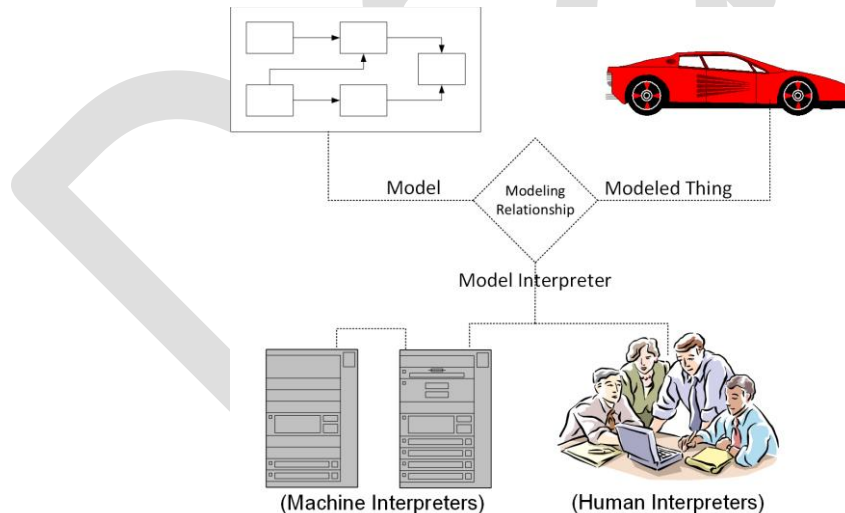

Figure 1: The Three-Way Setting for Models
- Models are descriptions of Modeled Things, for use and interpretation by Model Interpreters (which may be humans, machines, or both). See Figure 1.